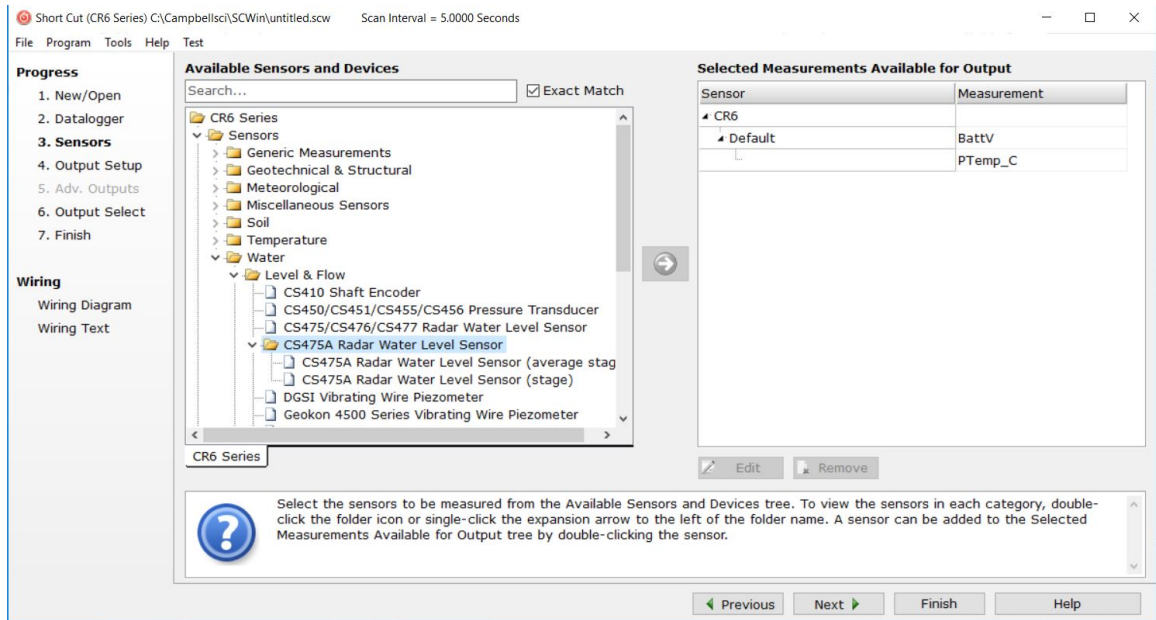
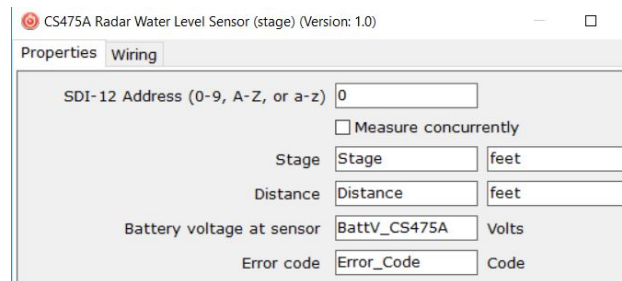
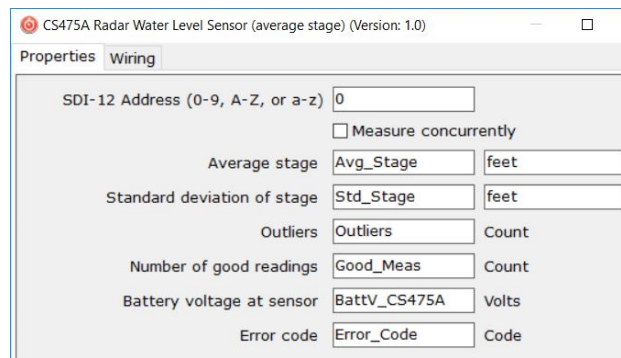

FIGURE 4-1. Short Cut, Sensor Selection
FIGURE 4-2. Short Cut, CS475A Stage Properties
FIGURE 4-3. Short Cut, CS475A Average Stage Properties
3. In the search box under the **Available Sensors and Devices** heading, start typing CS475A, or find the sensor in the **Sensors > Water > Level & Flow > CS475A Radar Water Level Sensor** folder. Double-click **CS475A Radar Water Level Sensor (average stage)** or **CS475A Radar Water Level Sensor (stage)** to select the sensor (FIGURE 4-1 (p. 3)). The **CS475A (stage)** measurement will issue the **M!** command and collect four values (stage, distance, battery voltage at the sensor, and error codes) (FIGURE 4-2 (p. 3)). The **CS475A (average stage)** issues the **M1!** command and completes a NOAA PORTS measurement; the user must configure the sensor for the number of measurements to be included in the average (FIGURE 4-3 (p. 4)).